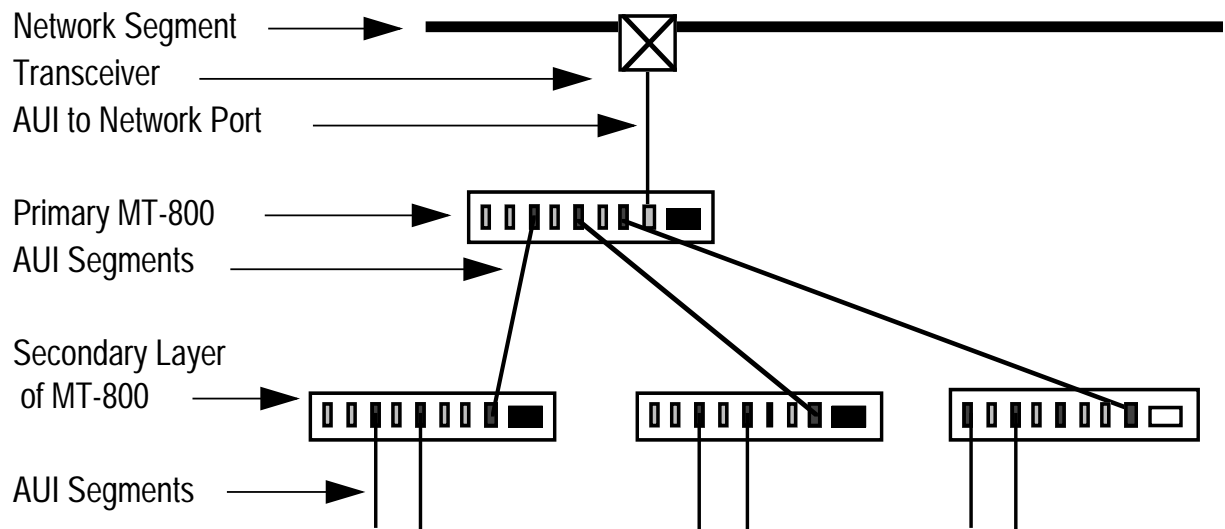

Figure 2-4. MT-800 in Network Cascaded Configuration
- d. When an MT-800 in the network configuration is cascaded with another MT-800 (Fig. 2-4), the total AUI length from the network transceiver to the end device must not exceed 30 meters.